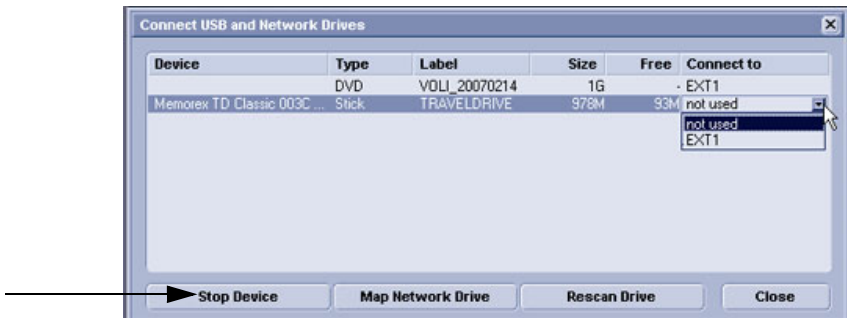

Figure 3-56    Connect USB and Network Drives
By pressing the USB key on the keyboard, a dialog window (see: Figure 3-56 below) is displayed. The “Connect USB and Network Drives” window shows all USB and Network drives connected to the system. Using this dialog, the USB-devices can be stopped before they are physically disconnected.
Then CLOSE the “Connect USB and Network Drives” window (see: Figure 3-56, above).
- ➡ **BT Version:** If an external drive was not recognized automatically after connecting it, click **RESCAN DRIVE** only on systems with BT’07 software.(see:Figure 3-56 on page 3-44)